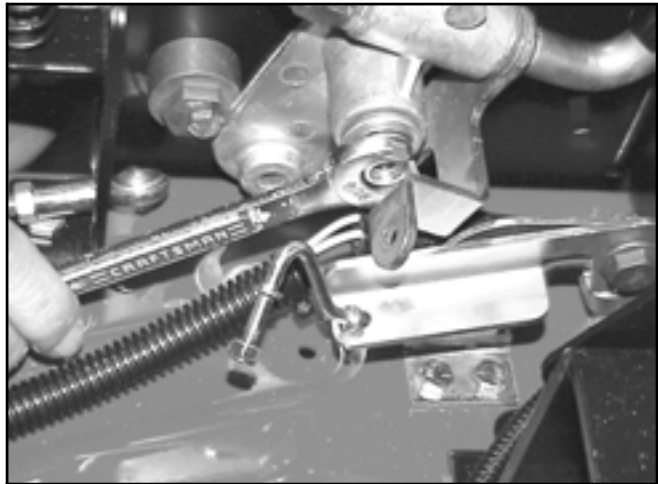

**Figure 72**
8. Slide the actuator off the welded stud (Figure 72).